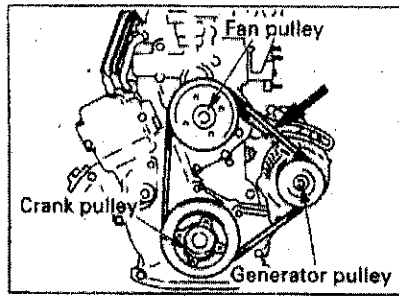

Fig 16. Fan belt
- 90 Adjust fan belt tension when belt slackness is greater than the specified amount and when the belts are being replaced (Fig 16).